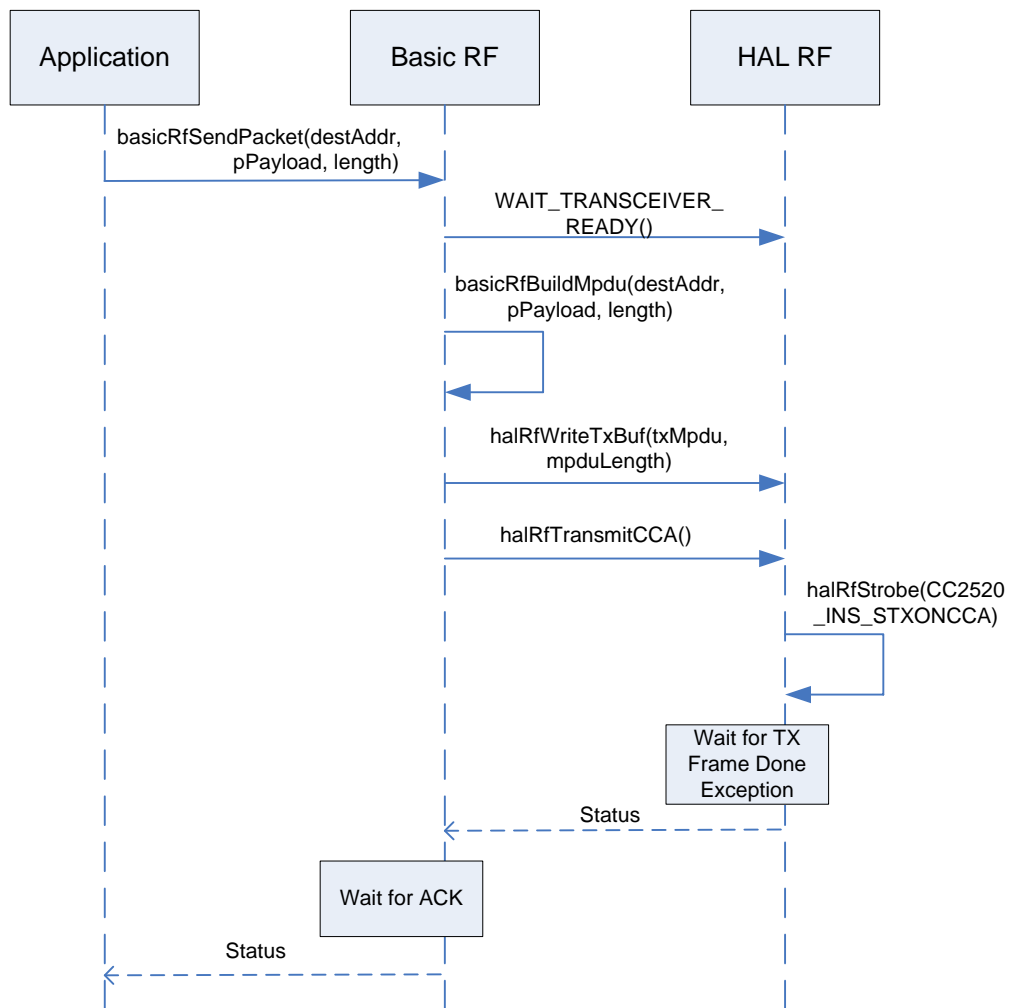
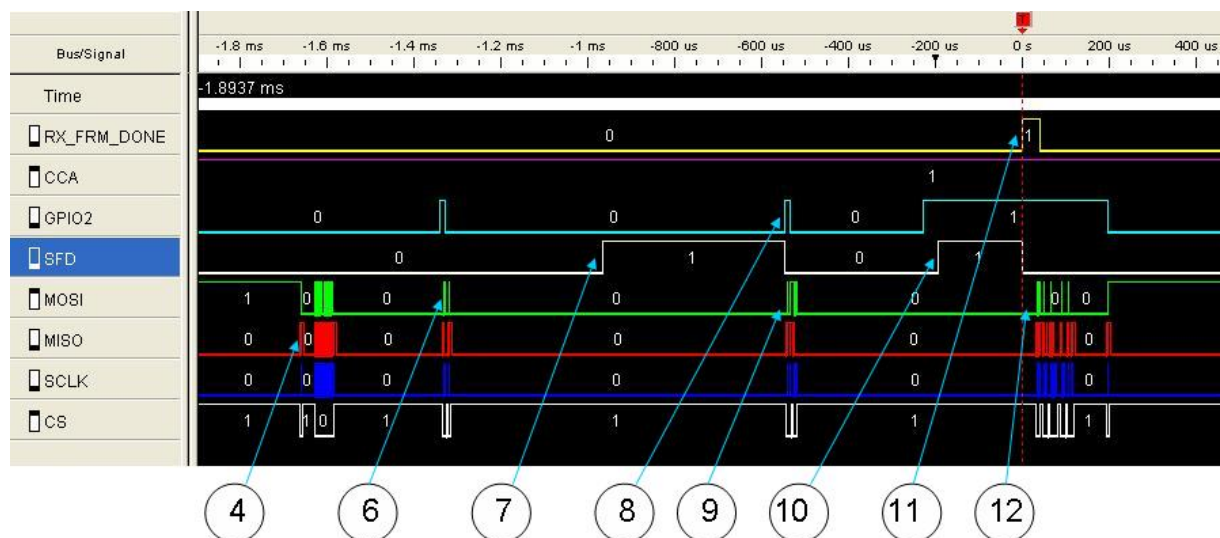

Figure 14 Packet transmission
Figure 15 Capture of packet transmission scenario using a logic analyzer
Figure 14 illustrates the sequence of function calls for a packet transmission scenario with Basic RF. In this scenario the security features of Basic RF is disabled.
Figure 15 shows a capture of the relevant signals during packet transmission using a logic analyzer.
With reference to Figure 14 and Figure 15, these are the steps that are performed during a Basic RF packet transmission with acknowledgement request.
4. Basic RF will then call `halRfWriteTxBuf()` to write the MPDU to the CC2520 TX buffer. **The activity on the SPI bus can be seen on marker 4 in Figure 15.**
6. GPIO2 is reused for both CC2520 TX\_FRM\_DONE exception and for RSSI\_VALID signal. **The SPI activity on marker 6 in Figure 15 is due to reconfiguration CC2520 to output TX\_FRM\_DONE exception and for sending the strobe command CC2520\_INS\_STXONCCA.** If the CCA signal is high, the packet can successfully be transmitted on the air.
12. **The `basicRfFrmDoneISR()` interrupt service routine starts reading out the ACK packet from the CC2520 RX buffer.** This can be seen as the activity on the SPI bus on marker 12 in Figure 15.
Figure 17 is a capture of the relevant signals with a logic analyzer during packet reception. With reference to Figure 14 and Figure 17, these are the steps that are performed during a packet reception with acknowledgement request.